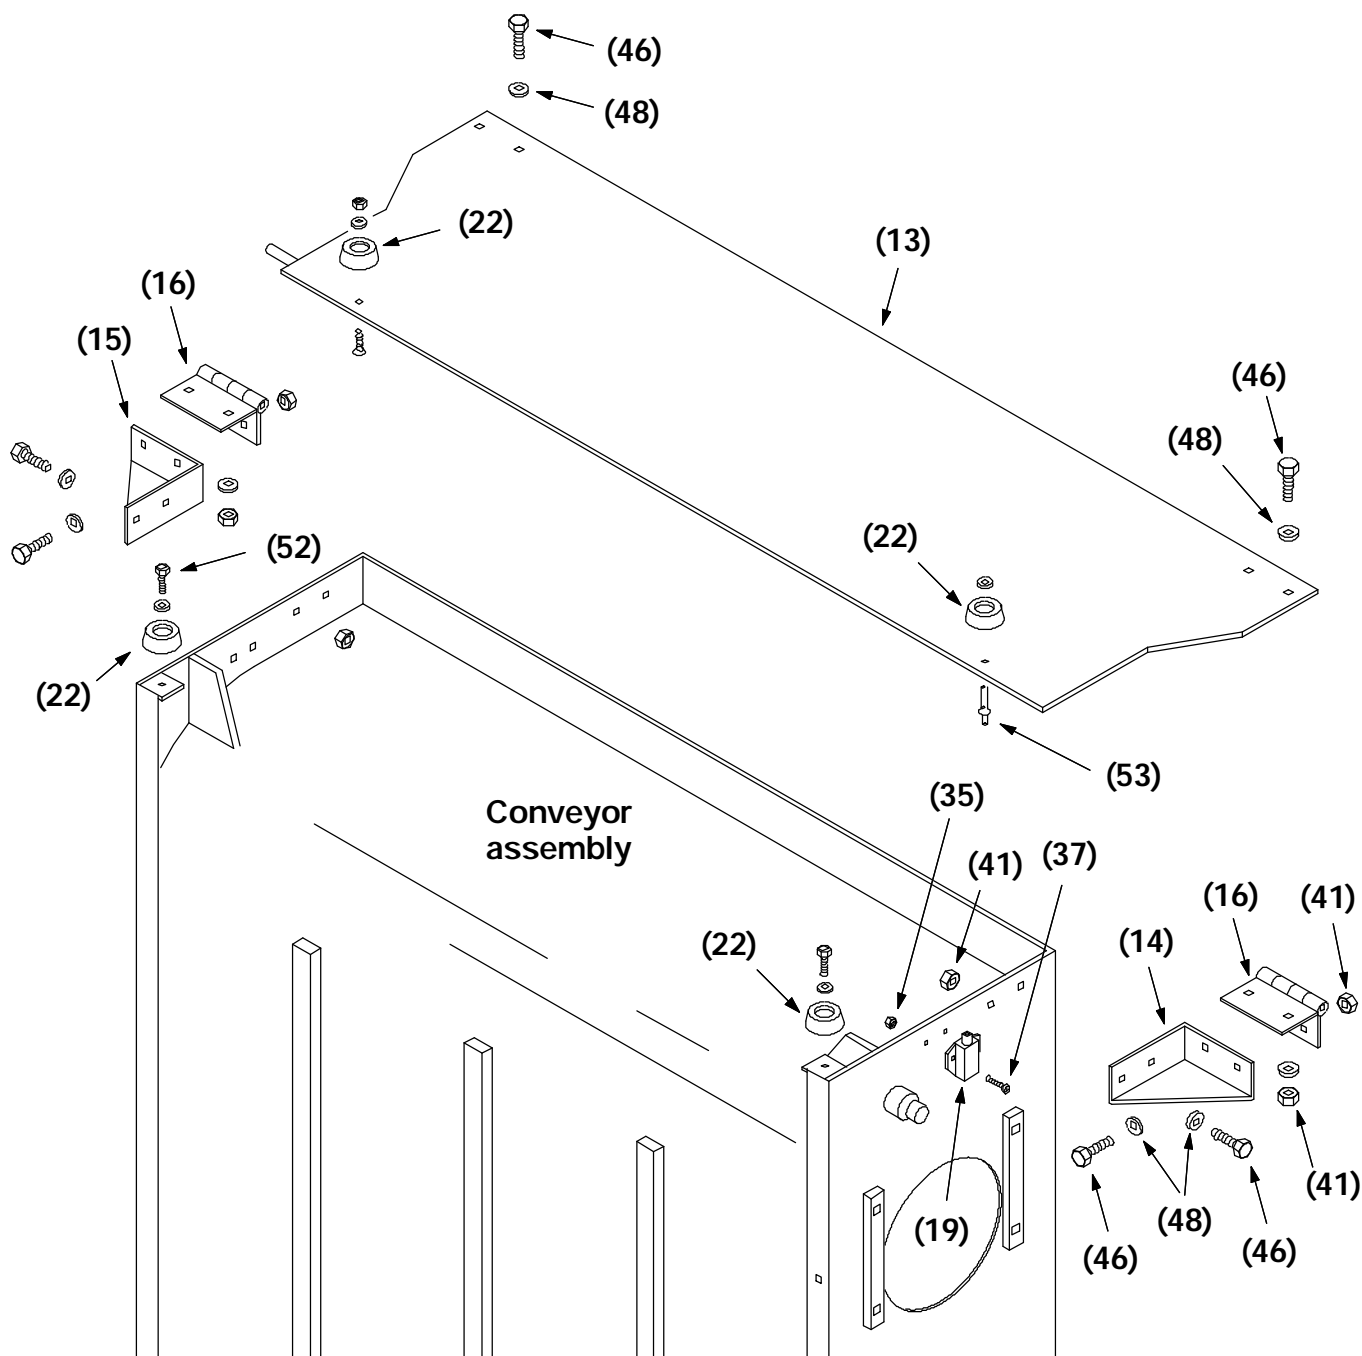

FIG. 1 - Conveyor Door Assembly
(Refer to FIG. 1 and 2)
1. While standing on the machine frame, install the RH (15) and LH (14) hinge mounting brackets to the top, front edge of the conveyor assembly. Use four M8 hex screws (46), flat washers (48), and nyloc nuts (41). Leave loose for now. (Refer to Fig. 1)
2. Mount one hinge (16) to front of each bracket using four M8 hex screws (46), flat washers (48), and nyloc nuts (41). Leave loose for now. (Refer to Fig. 1)
3. Mount the conveyor door (13) on the hinges (16) using four M8 hex screws, flat washers, and nyloc nuts. Leave loose for now. (Refer to Fig. 1)
4. Line the edge of the conveyor door with the front edge of the conveyor assembly. Tighten the hardware to 18 - 24 Nm (15 - 20 ft lb). (Refer to Fig. 1)
5. Install the four recessed rubber bumpers (22) on the conveyor door (13) using two rivets (46) and on the conveyor assembly using two tapites (52). (Refer to Fig. 1)
6. Install the micro switch (19) to the right side of the conveyor assembly. Hand tighten the two M4 screws (37), nyloc nuts (35), and int. lock washers (49). (Refer to Fig. 1)